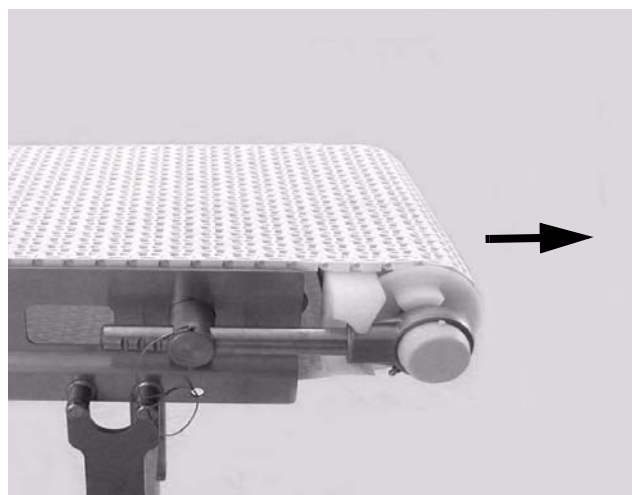
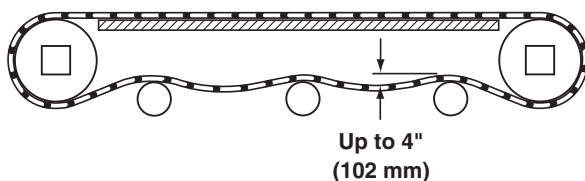

Figure 27
Figure 32
7. Extend the tension end to remove excess slack in the belt (Figure 27). Reference figure 32.
4. Check belt sag by measuring from the top of the return (**Figure 32**). Belt sag should not exceed 4" (102 mm). Follow steps 7 – 9 in the "Belt Installation" section on page 11 to remove slack from the belt.